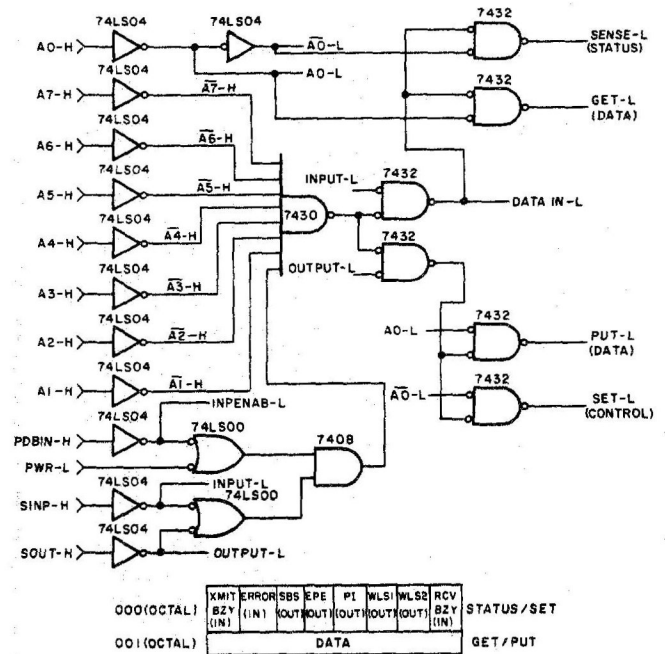
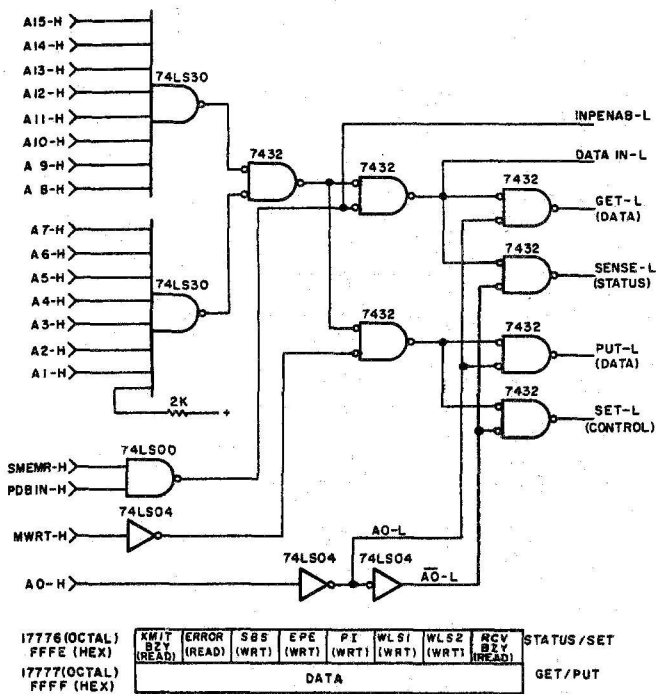

Fig. 5. Port I/O Address Decoding.
Fig. 6. Memory - Mapped I/O Address Decoding.
mind. Port I/O has the advantage of having less address lines to decode (8) as well as leaving all 65K of the address space available for memory. It has the advantage of being limited to only two types of instructions in transferring data to and from the I/O device (IN, OUT). **Memory-mapped I/O** is a method in which the I/O device is treated as if it were a memory location or group of memory locations. Memory mapped I/O has the advantage of being able to use any of the transfer instructions that are used with real memory, including arithmetic and logical as well as move instructions. The disadvantages are the need to decode more address bits (16) and the fact that part of memory address spectrum is consumed for I/O use. An example of port I/O address decoding is shown in Fig. 5. An example of memory mapped I/O is given in Fig. 6. A bit chart with addresses is provided in each of these figures. Each is set up to perform an identical function so that you may compare the complexity of one to another.